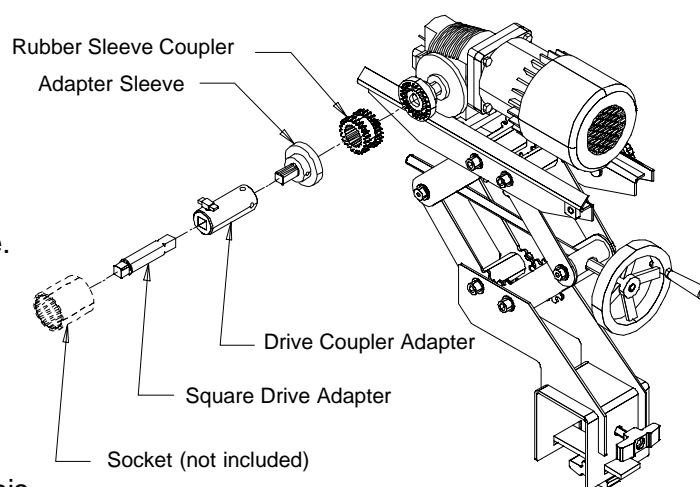

FIG. 25
**RUBBER SLEEVE COUPLER:** This is placed in the corresponding flange coupler already mounted in the spin drive shaft. See FIG. 25.